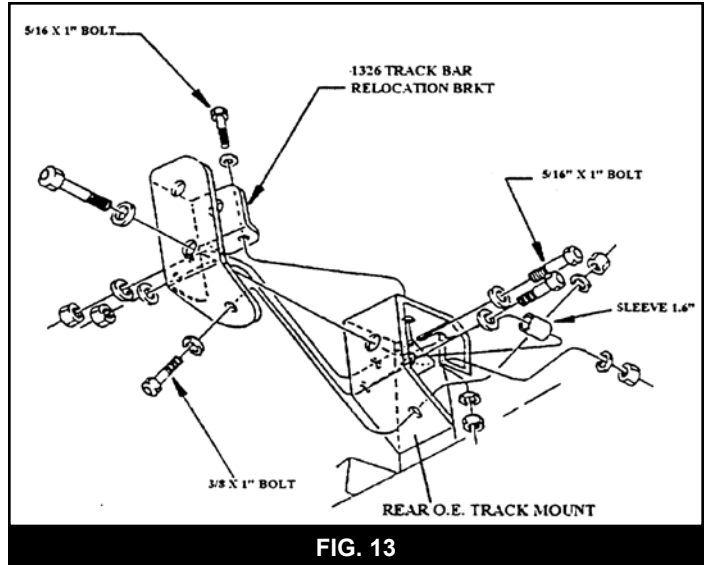
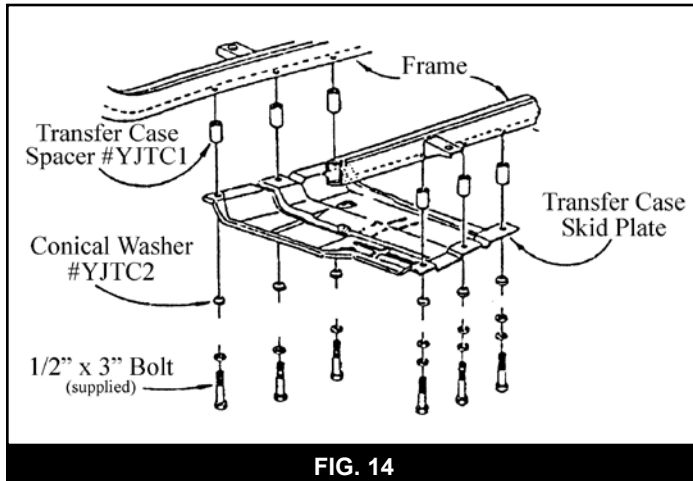

FIG. 13
FIG. 12
13. Position the supplied track bar relocation bracket (01326) on the original track bar axle mount (Fig 12). Install the supplied 1.600" long sleeve (6-1) in the original track bar mounting point (Fig 13). Install a provided 12mm x 80mm bolt and 7/16" washer (BP 711) through the supplied bracket, OE mount, sleeve and out through the other side of the mount. Loosely fasten the bolt with the OE nut tab. Note: If the OE nut tab is damaged, use a provided 12mm nut (BP 711).
14. With the new bracket in place, drill out the remaining four holes using the bracket as a template. The lowest hole is 3/8" while the remaining two outside holes and one upper hole are 5/16". Fasten the bracket with the supplied 3/8" x 1" bolt, nut and 5/16" USS washers (BP 711) in the lower hole and the 5/16" x 1" bolts, nuts and washers (BP 711) in the remaining holes (Fig 13). Torque the 3/8" hardware to 30 ft-lbs and the 5/16" hardware to 22 ft-lbs.